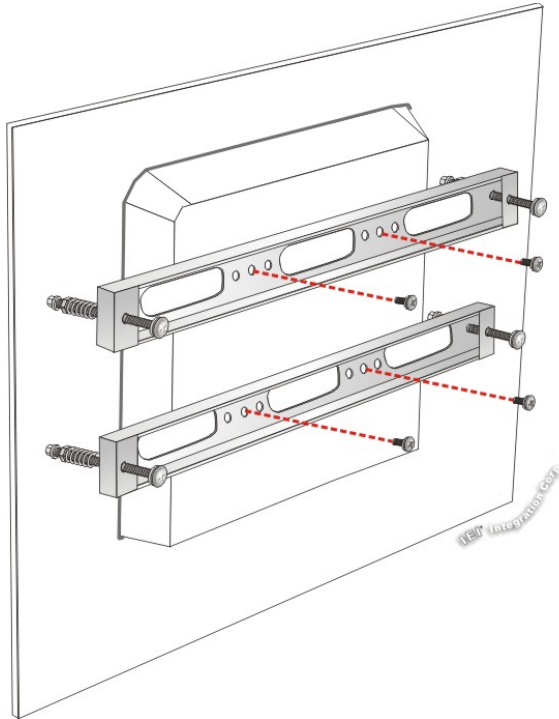

Figure 3-27: Securing Panel Mounting Brackets
- Step 7:** Secure the two panel mounting brackets to the rear of the panel PC by inserting the four retention screws into the VESA mounting holes and tightening them (Figure 3-27).